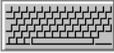

Figure 3-30: Operator information
3. Fill in the operator information and click **Save** (Figure 3-30). The new operator's name will appear in the Login list.
3. Edit the operator information as shown in Figure 3-30 and click **Save**.